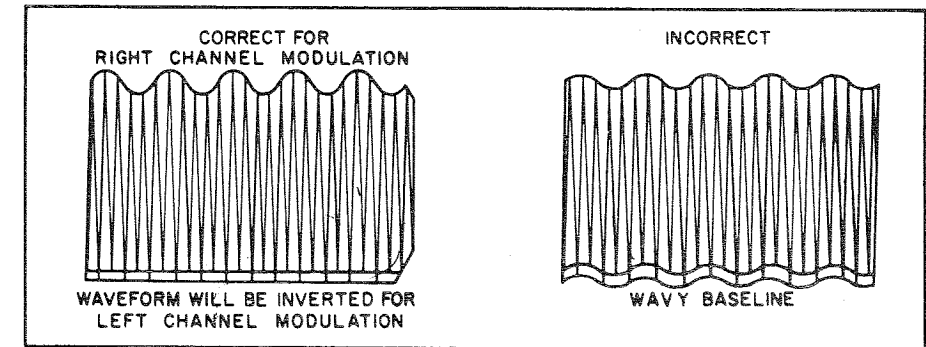

Figure 9. Waveform At Test Point 402.
- (6) Turn R107 SEPARATION CONTROL (on preamplifier board) CW to maximum resistance setting. Adjust core of Z403 (on AM/FM IF, MPX board) for maximum gain and as straight a base-line as possible on scope (see Figure 9). AC VTVM should read minimum.
- (7) With MPX generator modulated on right channel only, connect AC VTVM to RIGHT RCDR OUT jack. Record reading on AC VTVM.
- (8) Set MPX generator to modulate left channel only. Adjust R107 SEPARATION CONTROL (on preamplifier board) for minimum reading on AC VTVM; at least 30 dB below reading recorded in step (7). Record reading.
- (9) Connect AC VTVM to LEFT RCDR OUT jack. Same reading  $\pm 2$  dB as recorded in step (7).
- (10) Set MPX generator to modulate right channel only. Same reading  $\pm 3$  dB as recorded in step (8).
- NOTE:** If equal readings cannot be obtained in steps (8) and (10), readjust Z402 slightly (on AM/FM IF, MPX board) and repeat steps (7) through (10).